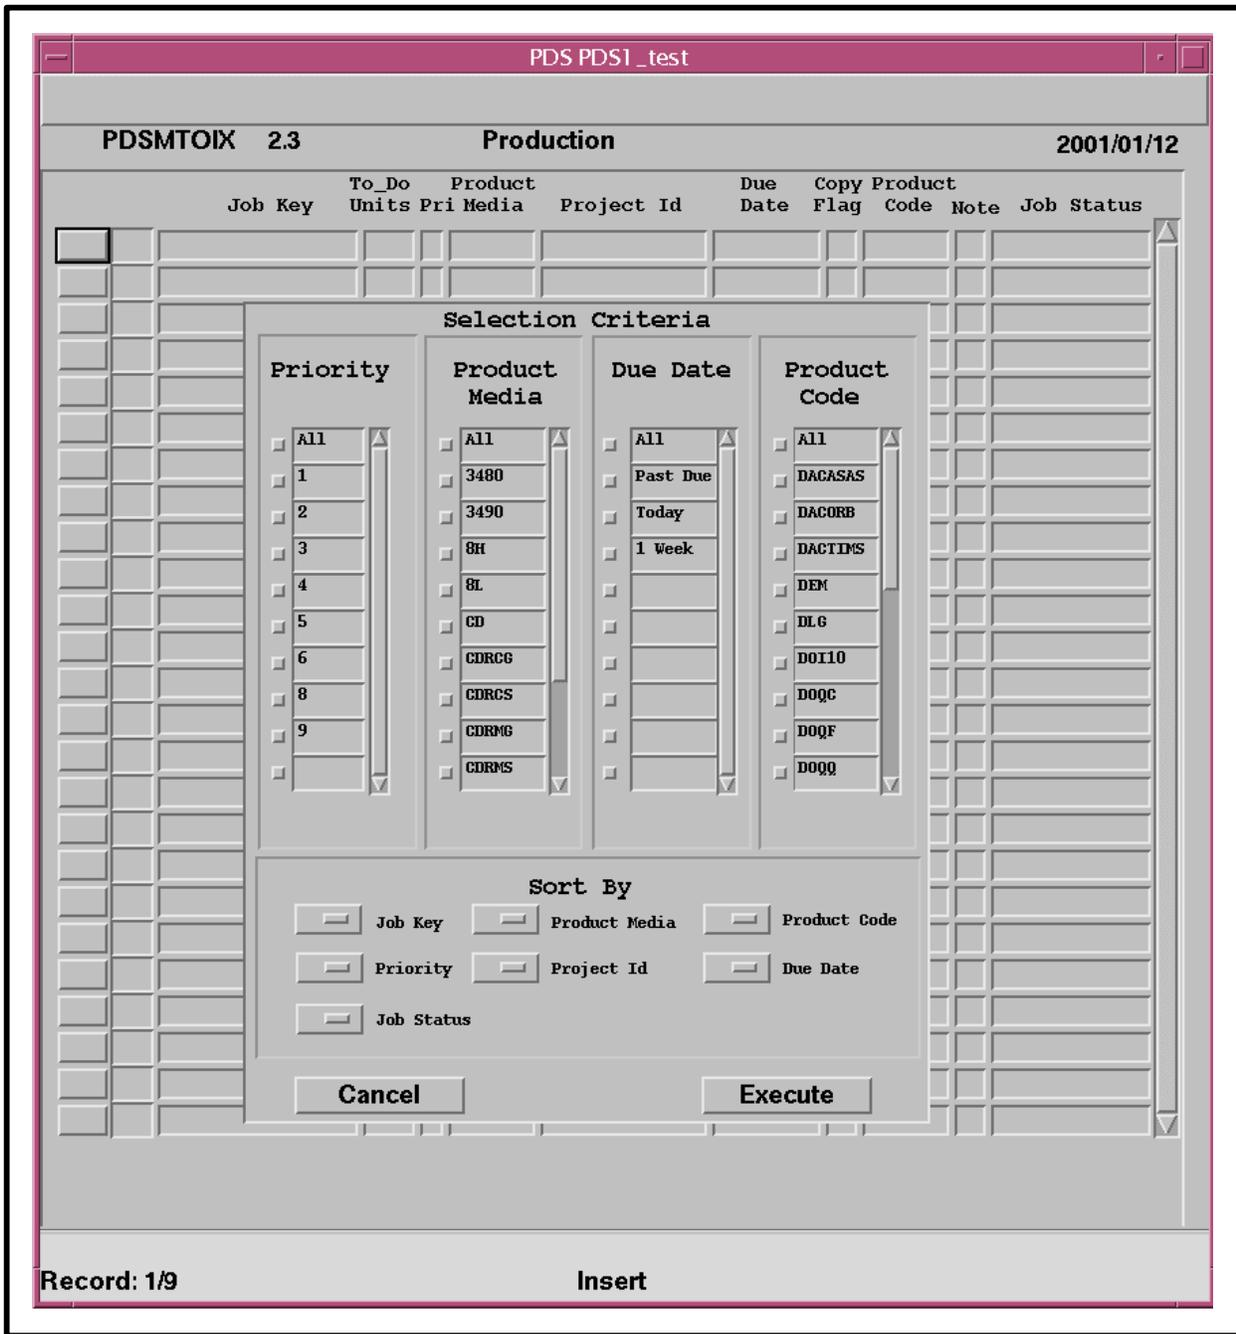

Figure 24. PDSOI Start-Up Selection Screen
- The **PDSOI Start-Up Selection Screen** (Figure 24) is displayed.
- For example, “PDS1_test” in the header of Figure 24 indicates that “PDS1” was chosen as the Machine ID and that “test” was typed in as the Console ID.